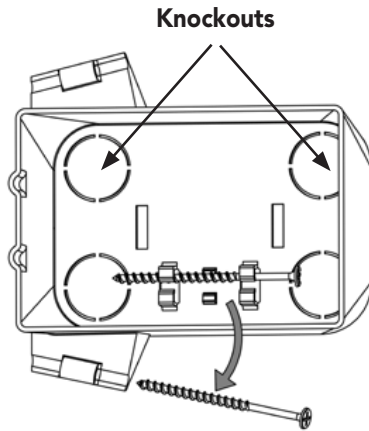

Figure 7
1. Remove the two screws from the interior clips of the junction box, and hand-screw them into the wings of the junction box (**Figure 7**).
2. Remove one of the four knockouts from the junction box (**Figure 7**). The resulting hole will allow routing of the 30-foot LED power cable.